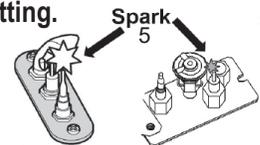

Fig 3
2. **SET ON/OFF SWITCH (1) TO "OFF" POSITION.**
- Wait five (5) minutes to clear out any gas, then smell for gas, including near the floor. If you smell gas, **STOP!** Follow "B" in the safety information above on this label. If you don't smell gas, go to the next step.
3. **AUTOMATIC IGNITION (fig. 1):** Locate the pilot (fig 3.) inside of firebox.
- ON/OFF switch (1) in ON position, MAN-knob (2) in ON position; set Flame Adjustment knob (3) to lowest setting (0).
- When the pilot is lit, the Flame Adjustment knob (3) will automatically rotate to the highest setting.
4. **MANUAL IGNITION (fig. 2):** With the window off, locate pilot (fig. 3) inside firebox;
- ON/OFF switch (1) in ON position, MAN-knob (2) in MAN position;
- Set Flame Adjustment knob (3) to the lowest setting (0);
- Push down the metallic core (4) with a pen or similar instrument; this will establish the pilot gas flow; Light gas at the pilot (5) with a match;
- Continue holding down metal core (4) for about 10 seconds; after release, pilot should remain lit;
- If the pilot will not stay lit after several tries, turn the gas control knob (3) to "OFF" (0) and call your local service technician or gas supplier.
- Reinstall the window and set the MAN-knob (2) to "ON"; turn Flame Adjustment knob (3) up (0) or down manually or use the up/down 'flame' buttons on the remote control handset to adjust the flame height.